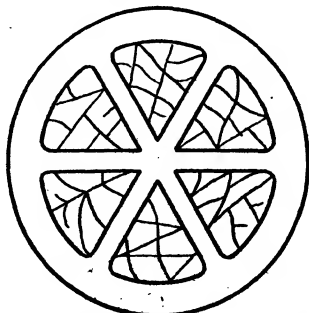

FIG. 30. SECTORS OF STAINED GLASS WINDOW
3. The design for a stained glass window includes sectors of circles. If the angle of a sector is  $60^\circ$  and the length of the straight sides is 6 ft., find the area of glass in the six sectors, Fig. 30.